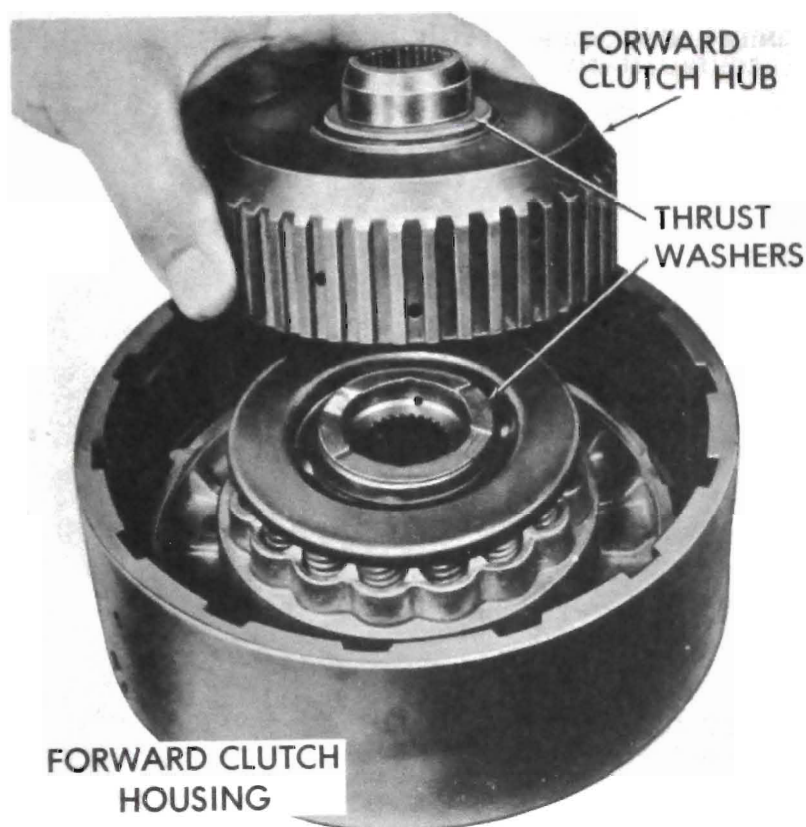

Figure 76-191
8. Install the forward clutch hub thrust washers on forward clutch hub. Retain with petroleum jelly. See Figure 76-191.
9. Place forward clutch hub into forward clutch housing. See Figure 76-191.